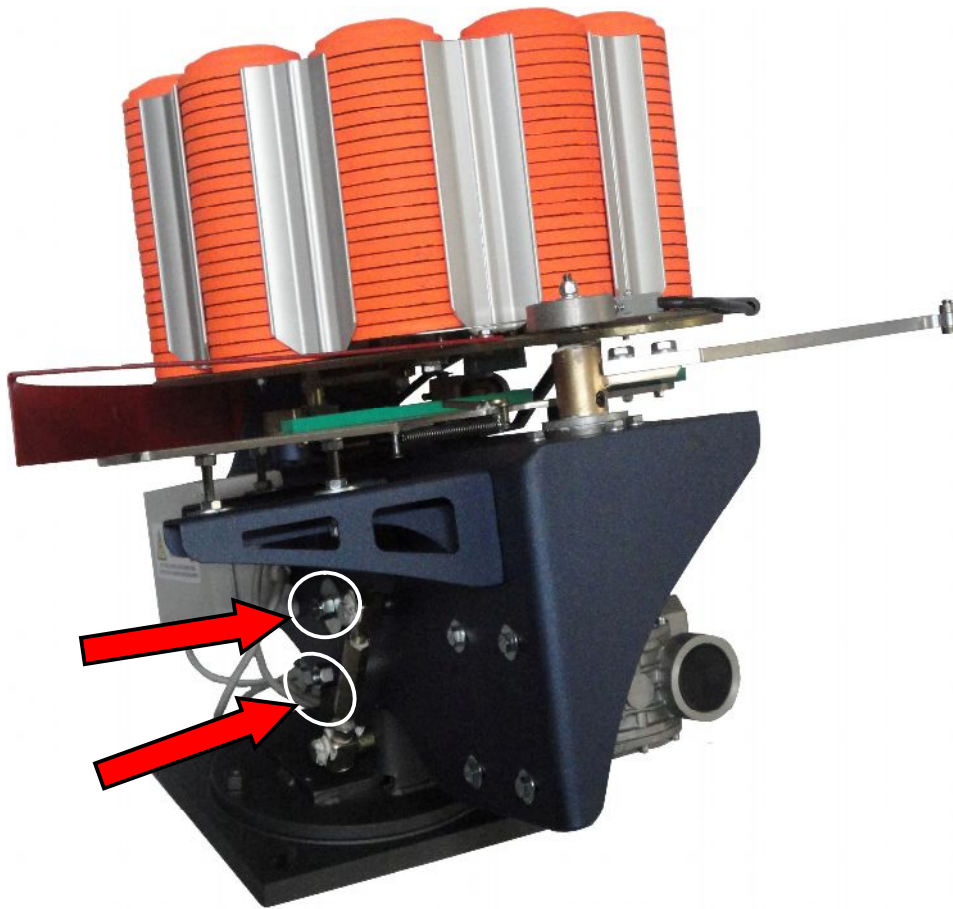

Fig. 8
For several reason the target axis, during the trajectory, could not be perpendicular to the horizontal plane (A). In order to correct such trouble the machine, indicated in fig. 8 , is equipped with a regulator system. Loosen the nut and bolt indicated in fig. 8 and to incline the requested angle of the machine towards wished directions, for example, in the case of a throwing with a target inclined left , to lean towards right and vice versa.